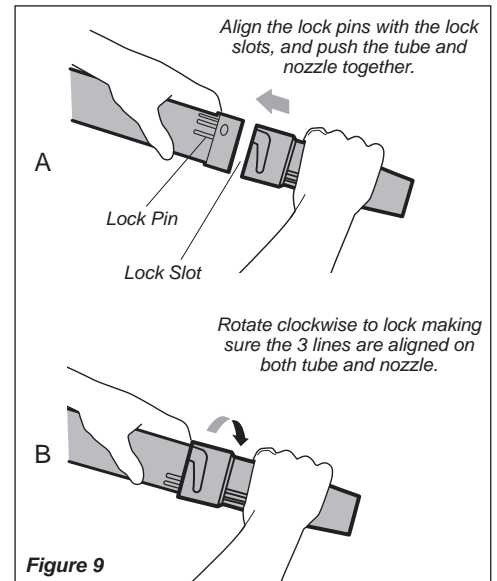

Figure 9
9. Grasp the nozzle, and push the nozzle over the swivel tube locking pins securing the static wire. See Figure 9.
10. Lock the nozzle to the swivel tube by rotating the nozzle noting the alignment marks. See Figure 9.